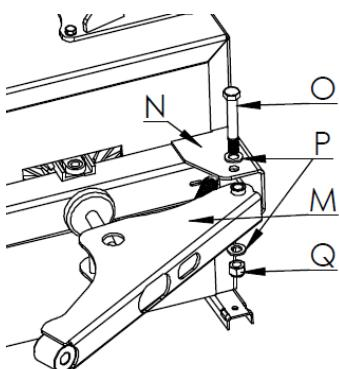

Fig. 8
- Place the arm (M, fig.8) in the bracket (N, fig.8), mounted on the machine, fix the arm arm (M, fig.8) using bolt (O, fig.8), washer (P, fig.8) and nut (Q, fig.8).